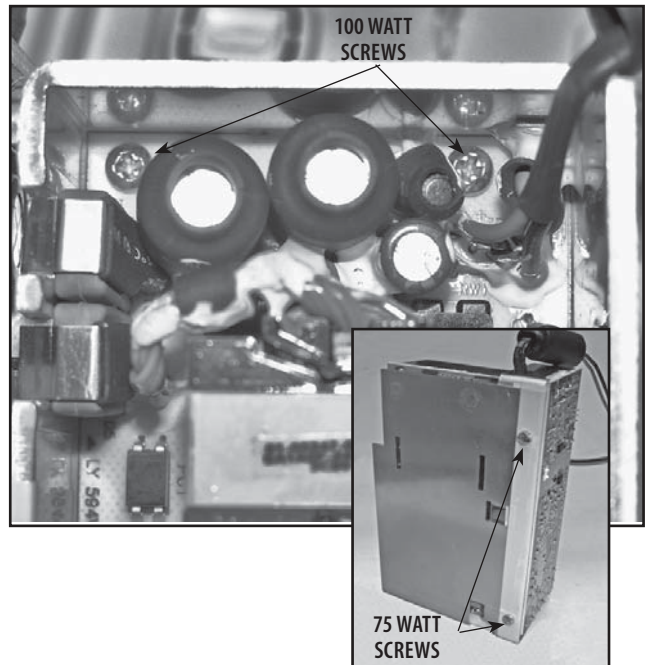

FIGURE 6.43
10. Remove 75 Watt Power Supply from Mounting Bracket by removing the two mounting screws on the back of Mounting Bracket securing the 75 Watt Power Supply. **See inset at Figure 6.43.**